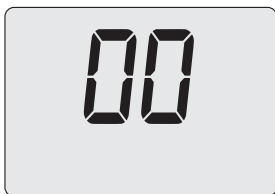

Figure 7.16
- 15 By using buttons "D" or "E" (Figure 7.4) it is possible to modify the value of parameter A01 (Figure 7.16).